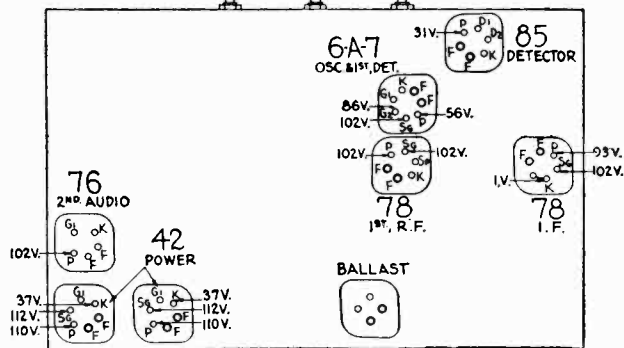

Fig. 2. Bottom View of Sockets with
**Philco No. 3164 Fibre Wrench** and **No. 27-7059 Fibre-Handled Screwdriver** complete the equipment needed for making these adjustments. The locations of the various compensating condensers are shown in Fig. 2. Connect the output meter to the plate contacts of the 43 output tubes (using the adapters provided with the "025") and set it at the 0-30 volt range.